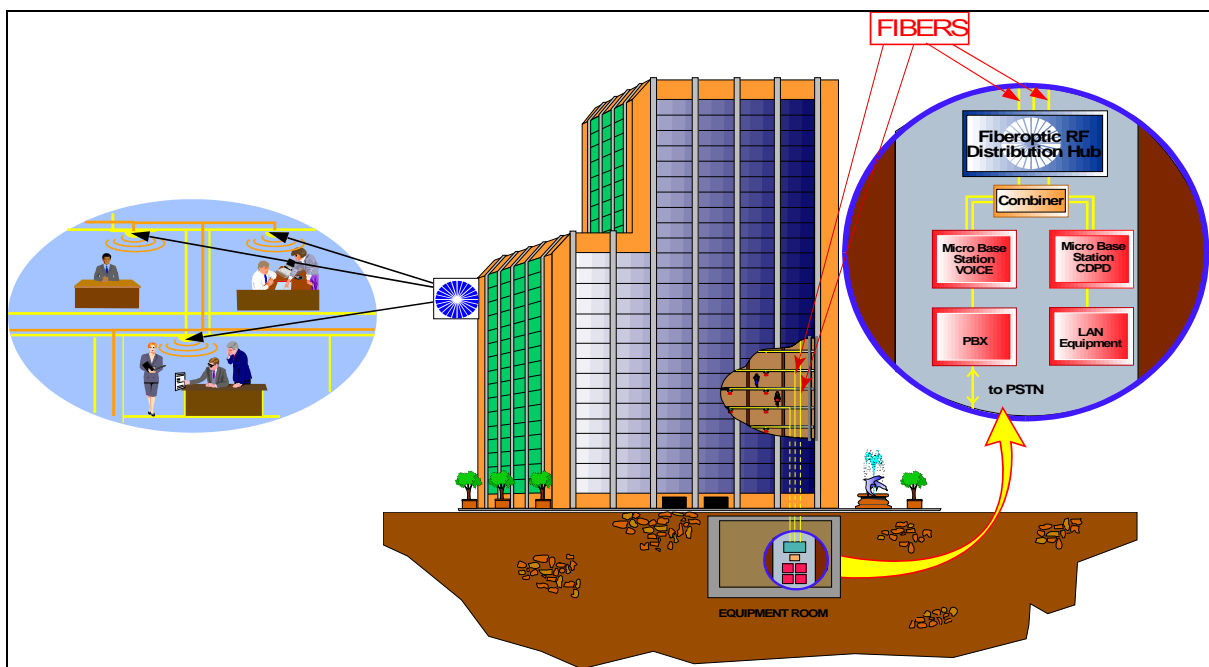

Figure 1. Typical EkoLite II Application.
- Figure 1: Typical EkoLite II Application
EkoLite II system would be a multi-floor building such as the one depicted in Figure 1. In buildings of this type it is common to find equipment rooms for Heating, Ventilation and Air-Conditioning (HVAC) and other utilities such as data networking and telephony equipment.
The fibers typically emanate from a source point (small base station) in the building. These fibers run from that source point, piping the signal to many locations throughout the building as shown in Figure 1.